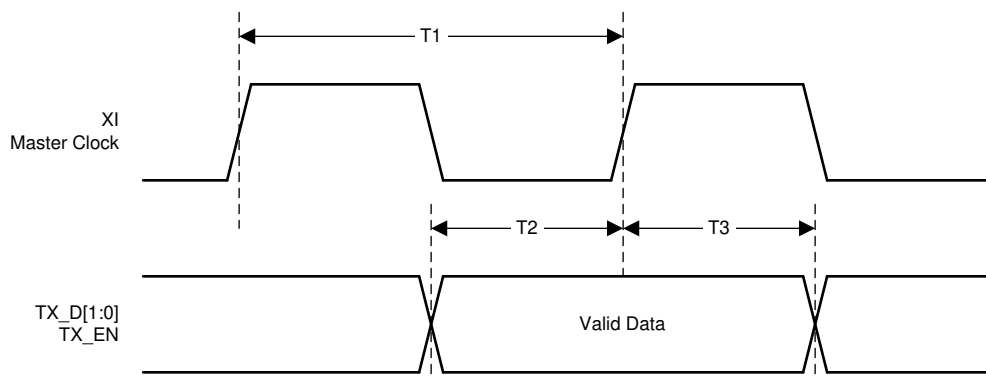

Figure 7-9. RMII Transmit Timing
(1) Ensured by production test, characterization or design.
(2) See Figure 7-9.